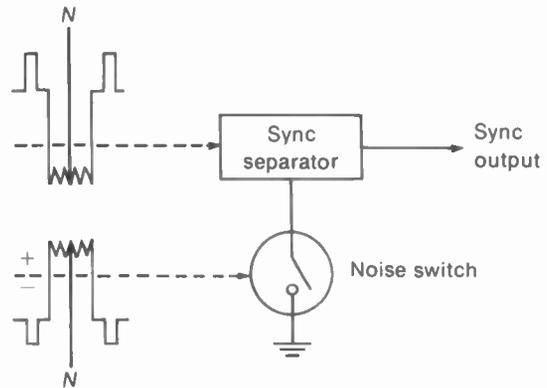

FIGURE 16-15 NOISE SWITCH TO CUT OFF SYNC SEPARATOR, TEMPORARILY, DURING THE TIME OF NOISE PULSE  $N$ .
3. Noise-inverter stage, noise-canceller, noise switch, or noise gate. Such a stage can remove high-amplitude noise pulses by cutting off the sync separator, just during the time of a noise pulse. See Fig. 16-15.
**Noise switch.** In Fig. 16-15, the noise switch illustrates a tube or transistor that is part of the return circuit to chassis ground for the sync separator. With the switch closed, the separator conducts to produce sync output. When the switch is open, though, the sync separator is cut off. Closed or open for the switch corresponds to its being conducting or cut off.